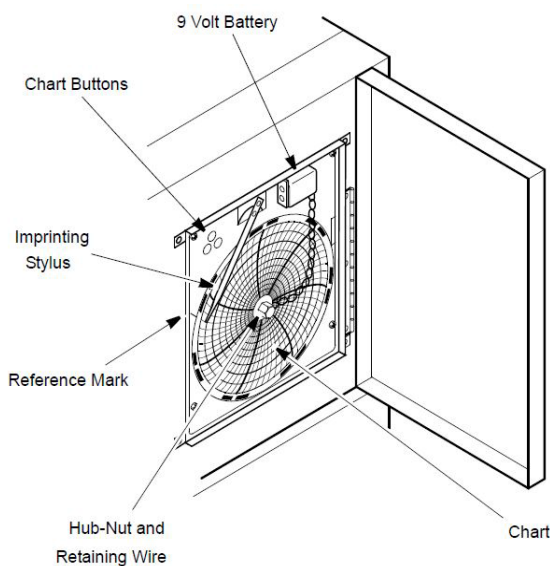

Figure 5. Six Inch Chart Recorder
3. Unscrew the center nut, remove the old chart paper, and install new chart paper. Carefully align the day and time with the reference mark on the recorder panel (a small groove on the left side of the panel, shown in *Figure 5*).